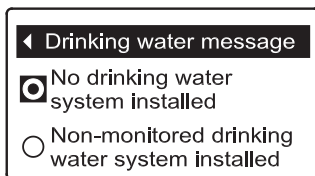

FIG. 58
4. Press the SELECT (○) button to display the Drinking water message menu (See Figure 58).